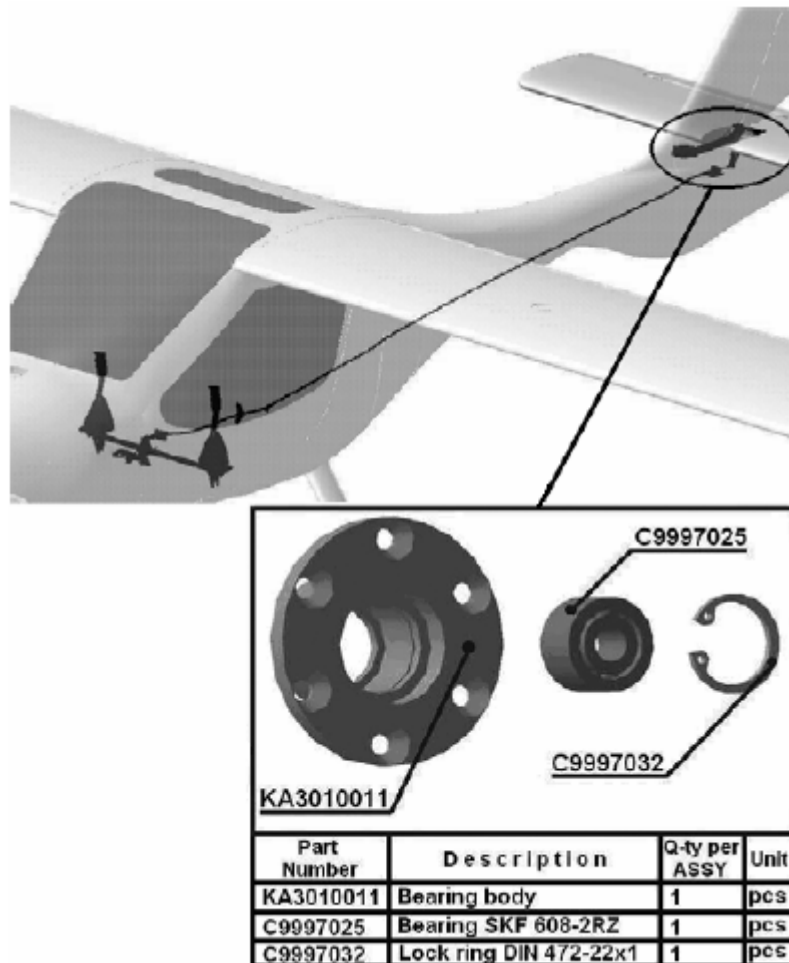

Fig. 2
1. Check lock rings C9997032 (Lock ring DIN 472-22x1) (Fig. 2) that secure the bearings C9997025 (Bearing SKF 608-2RZ) on both sides of the fuselage are present. Check inner cage of the bearings C9997025 for free rotation. Replace bearings, if necessary.
10. Find the middle of the trim tab cable (d=1,5 mm, l=8,0 m). Put ends of the cable on the sheaves (pos. 4) and turn each end around its slot (pos. 5) of the sheave 1,5 times in the opposite directions; then insert them into the safety Bowden cables.
12. Mount the stabilizer bracket (pos. 3) on the fuselage.
13. Stretch the trim tab rods in the tail part of the fuselage through one of the miniblocks (pos. 6).
15. With the help of turnbuckles (pos. 7) connect the trim tab rods with the trim tab rods stretching from the throttle box (pos. 8).
19. Using a bolt C9996060 Bolt DIN 912 M6x35-8.8 connect to rod tip C9997004 (Rod end bearing, int. thread SI6E) to the stabilator bracket B3010120. Tighten the nut C9996334 (Self-locking nut DIN 985-M6, regular) using two 10x13 wrenches to torque 80 lb-in / 9 N*m) (Fig. 2).